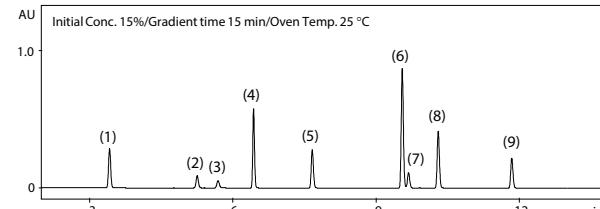

Fig. 7 Chromatogram with Highest Evaluation Value
Evaluation Value is calculated as the number of peaks detected (P) multiplied by the sum of resolution factor (Rs) for all peaks. Fig. 6 shows the Evaluation Values obtained from the investigation of gradient conditions and column oven temperatures, ranked in descending order. The highest Evaluation Value was observed under the condition with an initial gradient concentration of 15%, a gradient time of 15 minutes, and a column oven temperature of 25 °C. The chromatogram obtained under this condition is shown in Fig. 7, where good separation ($Rs \geq 1.5$) was achieved between all peaks.